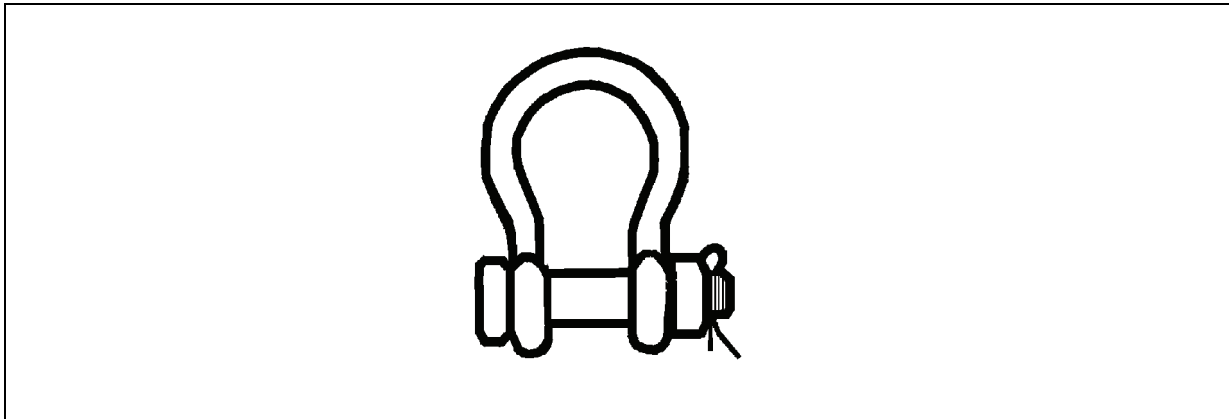

Figure 8-35. Anchor Shackles
- **Anchor Shackles** (Figure 8-35). Anchor shackles are used to attach sling legs to equipment that does not have shackles attached to the lift provisions. After installing the shackle, place the nut on the bolt and safety the nut with the cotter pin. This keeps the pin from backing out in flight. The safe working load capacities of several sizes of anchor shackles are listed in Table 8-2. The capacity of the anchor shackle is marked on the shackle.